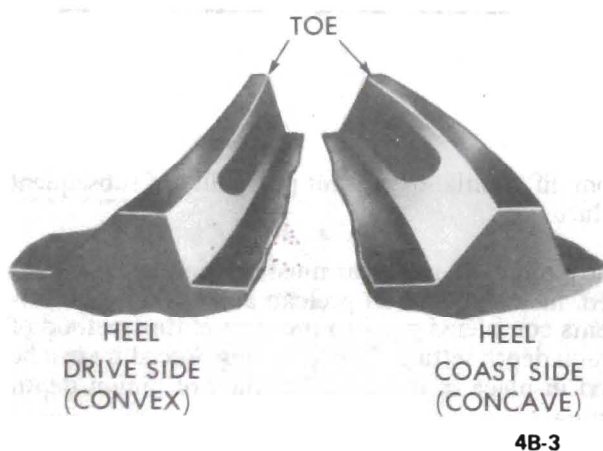

Figure 4B-3 Gear Teeth Nomenclature
5. Observe pattern on ring gear teeth and compare with Figures 4B-3 and 4B-4.